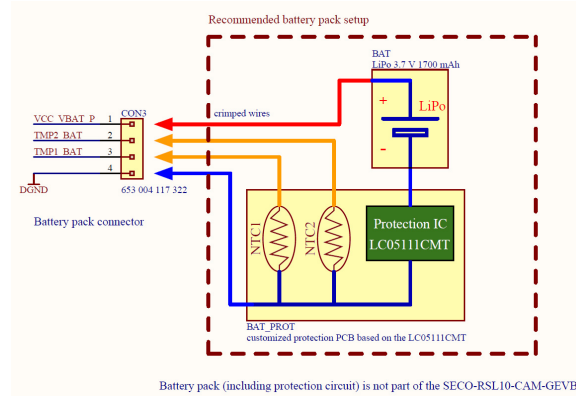

**Figure 9. R31 = 10 kΩ to be Removed Once External Li Battery and it's Protection Circuit Connected**
1. Remove R31: the 10 kΩ resistor emulates the external NTC sensor. As the board is not delivered with a battery, this dummy resistive load must be connected towards FAN54120 (Figure 9).